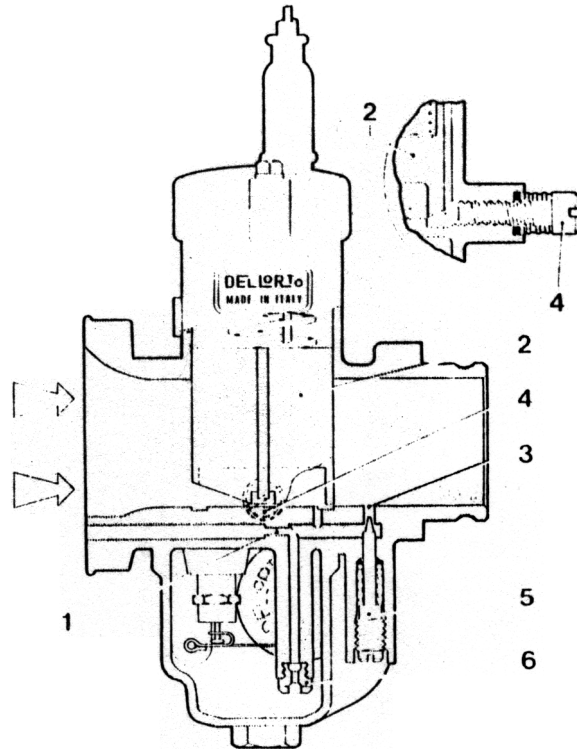

fig. 18
In figure 18 the throttle slide 2 is shown in the idling position, adjusted by the idle speed screw (4). In this position the vacuum present downstream of the throttle valve causes mixture to be delivered via the hole (3), regulated by the tapered tip of the mixture adjusting screw.